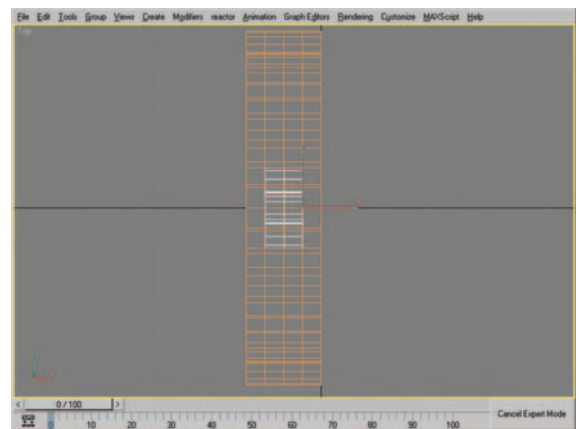

Figure 8.98 Small tube centered from side to side with larger tube object.
6. In the top viewport, use the Align tool and position XYZ, center to center. Figure 8.98 shows the positioned smaller tube.